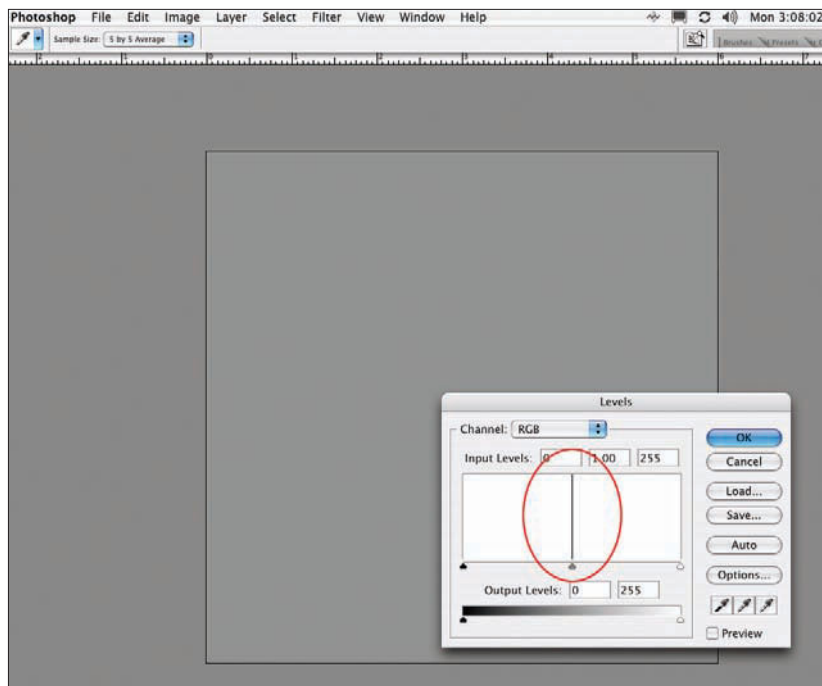

Figure 7.8
- It is a very good idea to calibrate your meter. One of the easiest ways to do this is to compare it side-by-side with another meter, or even three together. You can also make a full-frame exposure of a gray card and examine the histogram—if there is a spike dead center in the histogram, the exposure is correct for middle gray—Figure 7.8 shows what I mean.